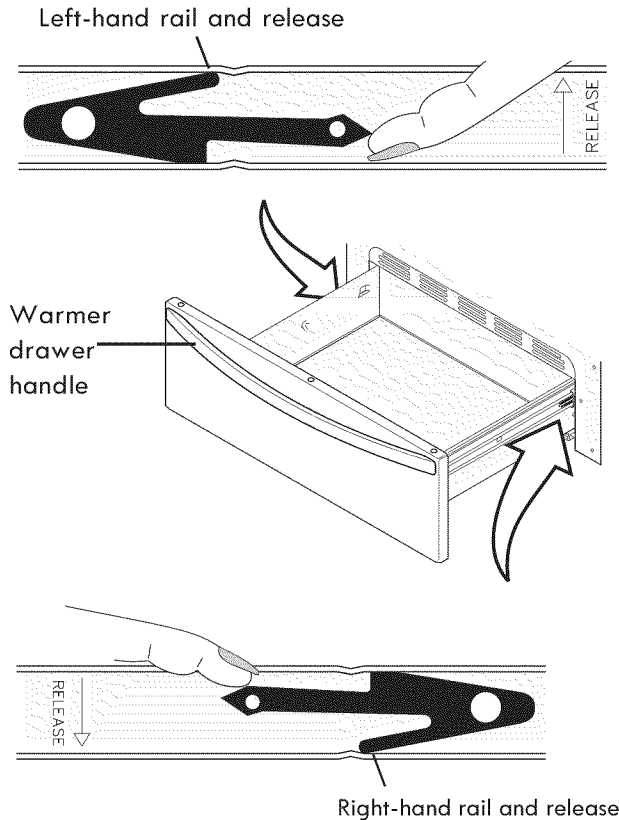

Figure 54: Removing the warmer drawer
3. On left warmer drawer rail, locate black release lever and press up with finger while pulling out slightly on the oven drawer handle. On right warmer drawer rail, locate black release lever and press down with finger while pulling out slightly on the warmer drawer handle (See Figure 54).